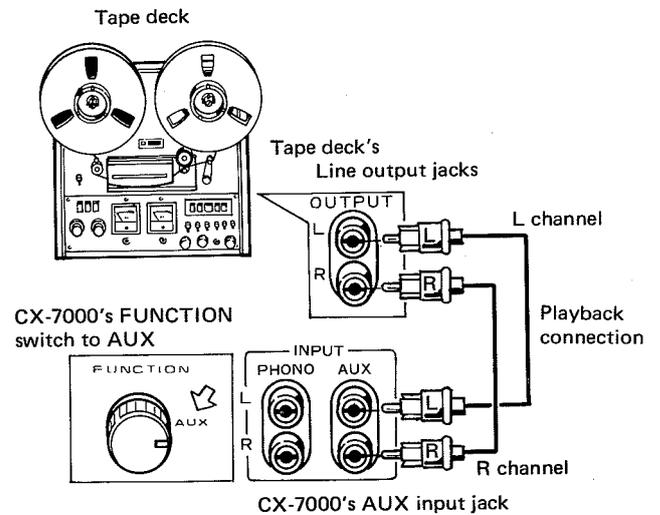

Fig. 15
You can use the AUX jacks to duplicate a pre-recorded tape. As shown in Fig. 15, you can record songs and music broadcast in FM programs, which have been pre-recorded by a tape deck, on a tape in the CX-7000's cassette deck if you connect the LINE OUTPUT jacks of that tape deck to the AUX jacks. In addition, you can duplicate material from an open-reel tape deck onto the CX-7000 cassette tape.
1. Connect the tape deck as shown in Fig. 15;